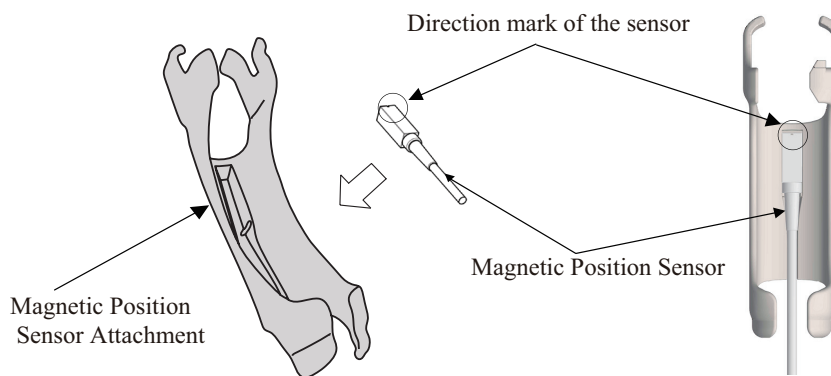

Figure 9 How to attach Magnetic Position Sensor
- (1) Confirm that the magnetic position sensor attachment is sterilized or disinfected.
- (2) Insert the magnetic position sensor into the magnetic position sensor attachment with the correct direction as shown in Figure 9.